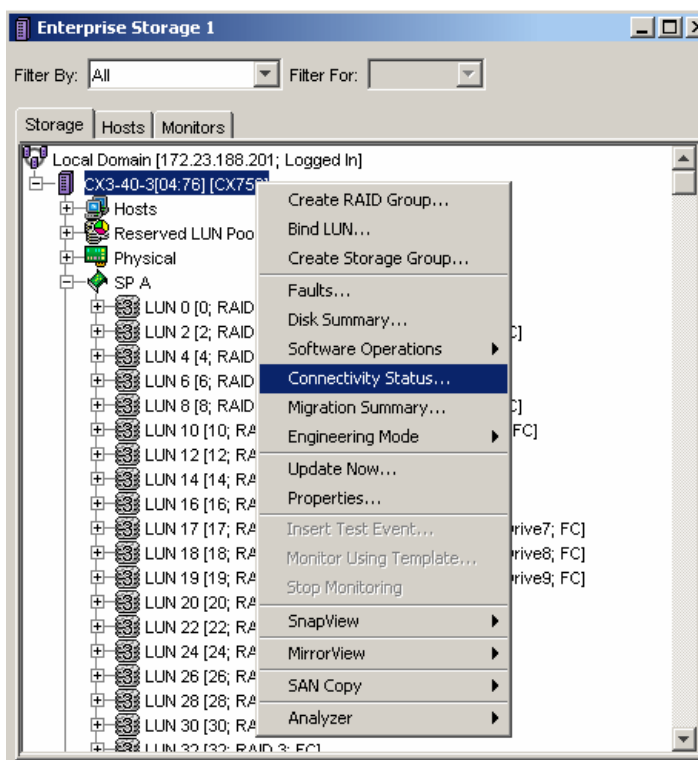

Figure 8-39 Connectivity Status window
11. Right-click **LUN 896[896, RAID 5,FC]** and select **Properties**. Ensure the LUN Name is correct and that you are set on the correct SP. In our example, we use SP A. Click **OK**. The window shown in Figure 8-39 should appear.